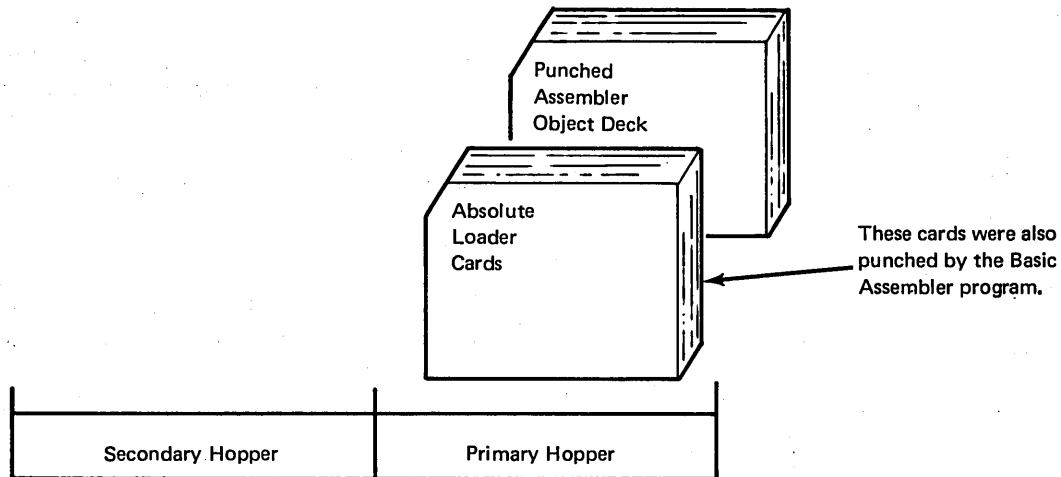

Figure 38. Input for Basic Assembler Object Program Execution
2. Place punched absolute loader cards and object deck (Figure 38) in primary hopper of MFCU. Load cards face down, top edge to the left.